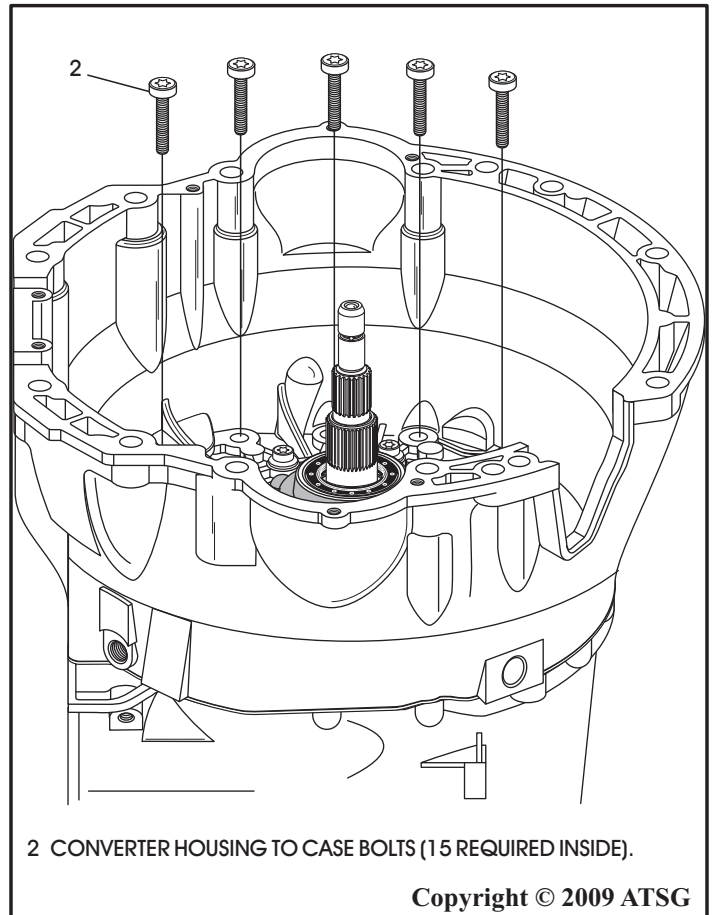
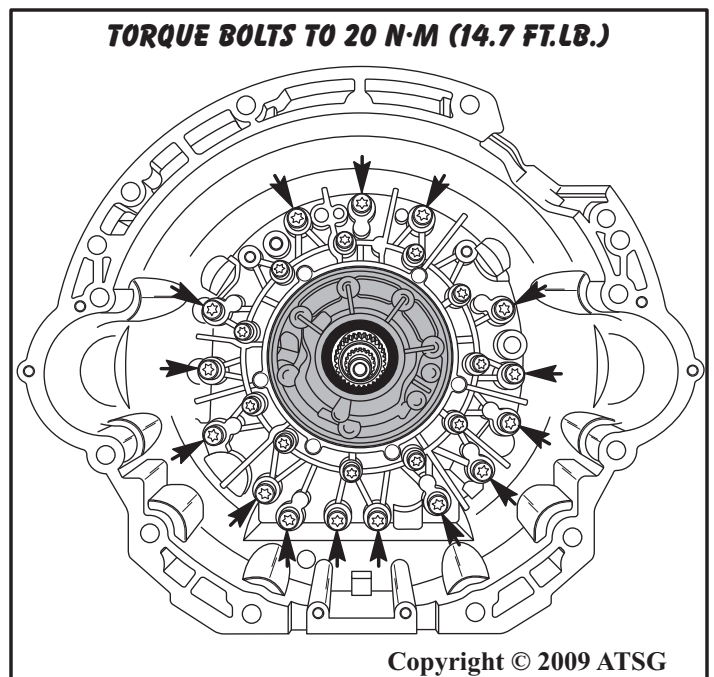

Figure 184
Figure 185
20. Install the 15 required converter housing to case retaining bolts, as shown in Figure 184, torque bolts to 20 N·m (14.7 ft.lb.) (See Figure 185).